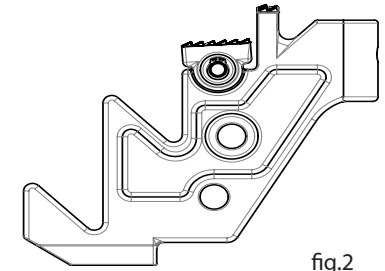

fig.2
GRIFFA DI BLOCCAGGIO (fig.2)
LOCKING JAW (fig. 2)
**GRIFFE DE BLOCAGE (fig.2)**
**BLOCKIERKLAUE (Abb.2)**
**MORDAZA DE BLOQUEO (fig. 2)**